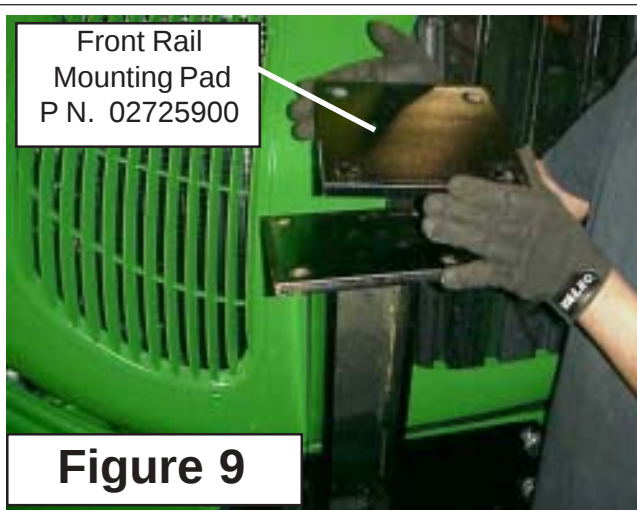
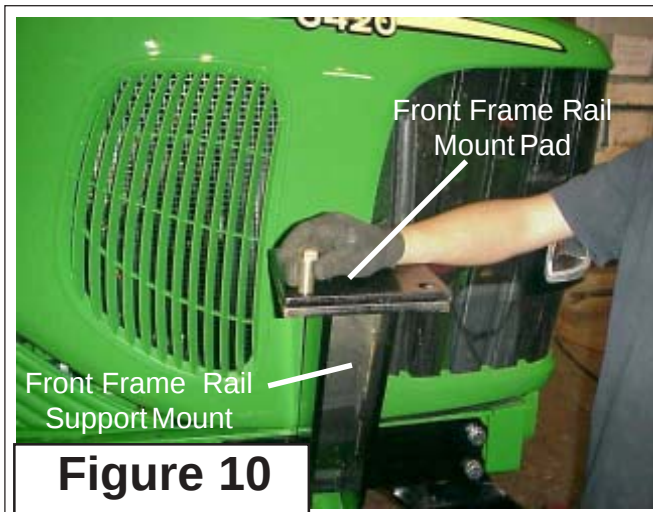

Figure 9
Figure 10
4. Front Rail Mounting Pad. There are two of these Pads; one is used on the left and one on the right. These Pads are the same so it will not matter which goes on which side. (See Figure 9). Set the Pad down over the Front rail Support aligning the four holes in pad with the four holes Support. Insert the four Bolts into the mount pad and plates on front support mount (See Figure 10). Install a nut on one or two of the Bolts but do not tighten them, the Bolts are only installed to prevent the Pad from moving side to side.